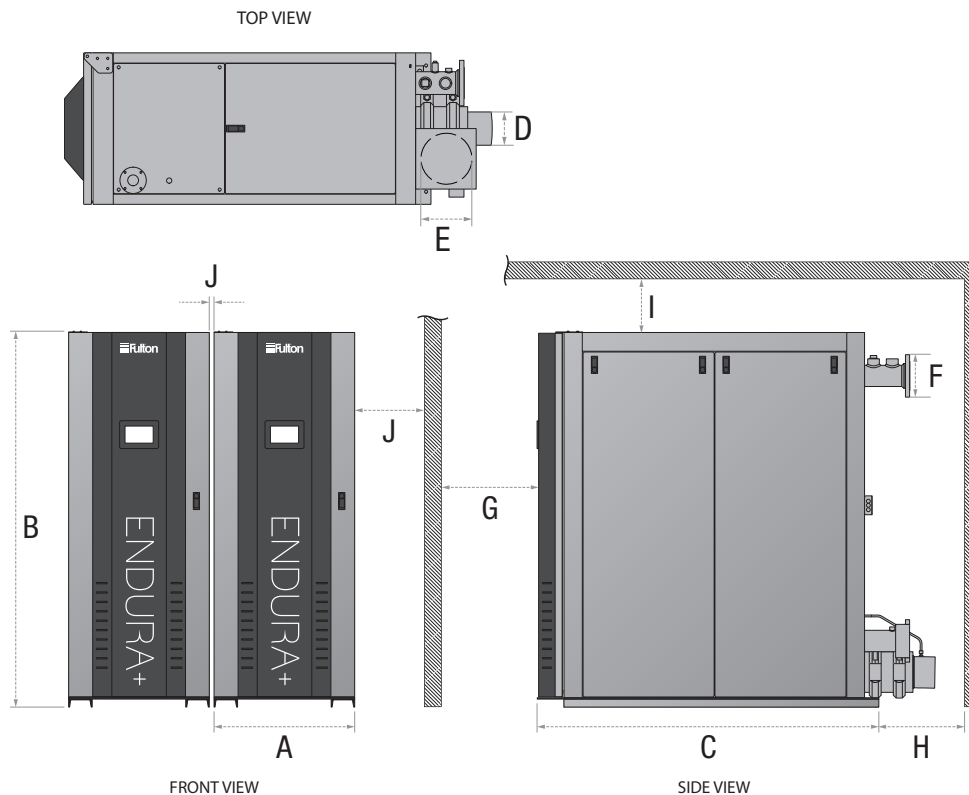

FIGURE 1 - ENDURA+ HYDRONIC BOILER SERVICE CLEARANCE
Prior to the performance of installation, operation, or maintenance procedures, personnel should become familiar with the equipment (Table 1 and Figure 1) and its components.
2. Appropriate front, back, side and top clearances must be maintained (Figure 1) to allow access around the equipment to facilitate maintenance and a safe work environment, as follows: